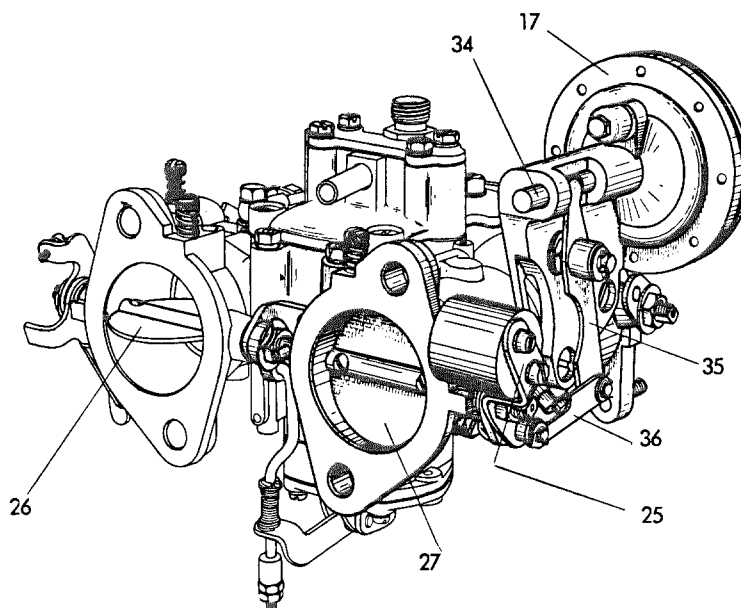

Fig. 07-0/32
The compound cross-draft carburetor has two suction canals with one throttle valve each. Each suction canal forms one "stage" and there is no connection between the throttle valve (27) of stage 1 and the throttle valve (26) of stage 2 (see Fig. 07-0/30). Whereas the throttle valve shaft of stage 1 is actuated as usual via the throttle valve lever (38), the throttle valve of stage 2 is opened automatically via the vacuum box (17). The diaphragm (20) in the vacuum box is connected to the throttle valve lever (25) of stage 2 by means of the diaphragm rod (34), the relay lever (35) and the relay arm (36). In the "at rest" position the diaphragm (20) is pushed to the right by the diaphragm spring (19) and thus closes the throttle valve of stage 2.
The space to the right of the diaphragm (atmosphere side) is under atmospheric pressure. The vacuum obtaining in the air horn of stage 1 when the throttle valve is fully open causes the throttle valve (26) of stage 2 to open at an engine speed of approx. 3500 rpm. The two ball valves (delay valves) (21) on the vacuum side and (18) on the atmosphere side of the vacuum box prevent a sudden opening of the throttle valve of stage 2 (Figs. 07-0/32 and 07-0/33).